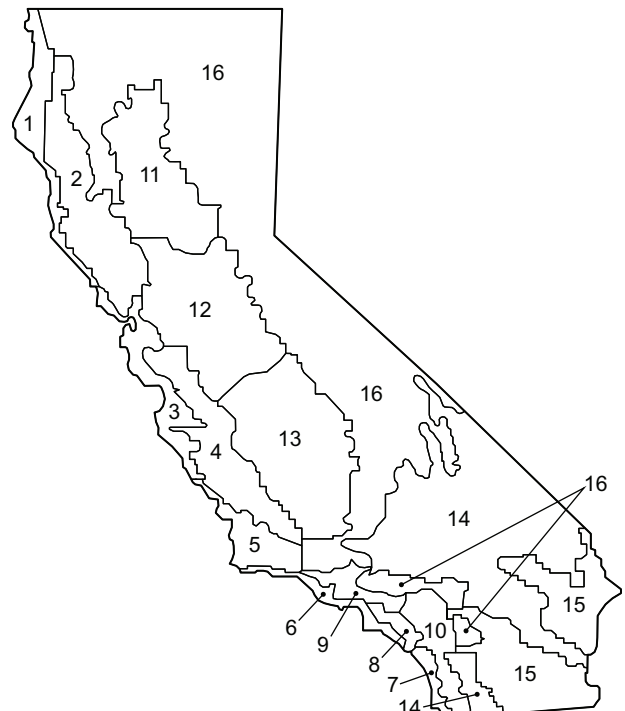

Fig. 81 – California Title 24 Zones
b. See Fig. 81 for map of California Title 24 zones.